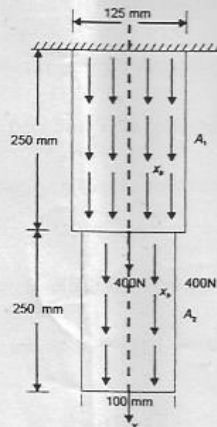

Fig. 12 (a)
- (b) The differential equation of a physical phenomenon is given by $\frac{d^2y}{dx^2} - 10x^2 = 5$. Obtain two terms Galerkin solution by using the trial functions : $N_1(x) = x(x-1)$; $N_2(x) = x^2(x-1)$; $0 \leq x \leq 1$ boundary Conditions are : $y(0) = 0$ $y(1) = 0$. (13)
12. (a) The thin plate of uniform thickness 20 mm, is as shown in Fig. 12 (a). In addition to the self weight, the plate is subjected to a point load of 400 N at mid-depth. The Young's modulus $E = 2 \times 10^5 \text{ N/mm}^2$ and unit weight $p = 0.8 \times 10^{-4} \text{ N/mm}^2$. Analyse the plate after modeling it with two elements and compute the stresses in each element. Determine the support reactions also. (13)